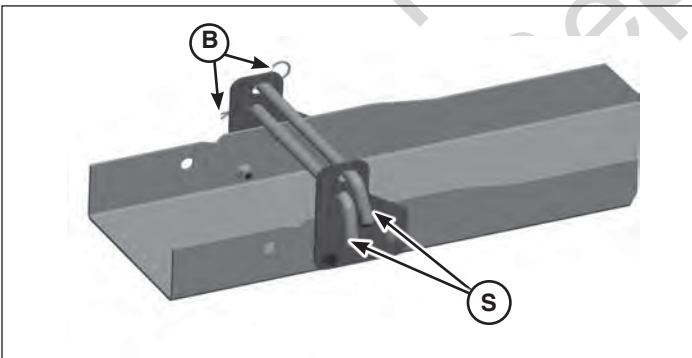

Figure 6
3. Attach both latch rods (**S**, Figure 6) with hair pins (**B**).